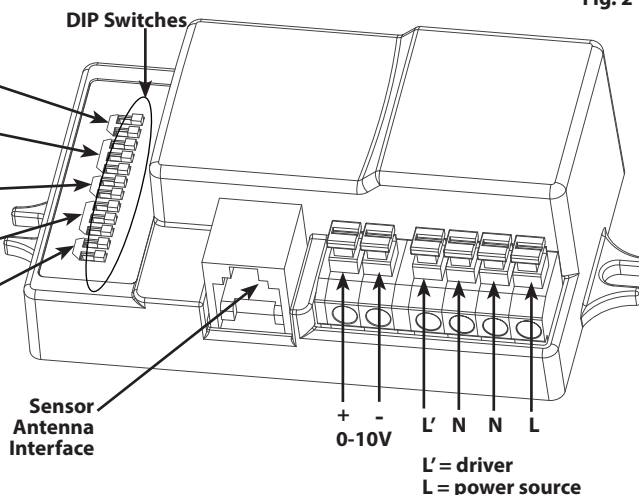

Fig. 2
2. Rotate and slide the **Fixture** as required to fit through the **Tee-Grid Bar** and place it as indicated by the directional arrow as shown in Fig. 2. Secure the **Fixture** to the **Tee-Grid Bar**.
Switch positions referred to as R for right position and L for left position when looking at sensor in orientation shown in Fig. 2, in which all switches are R.